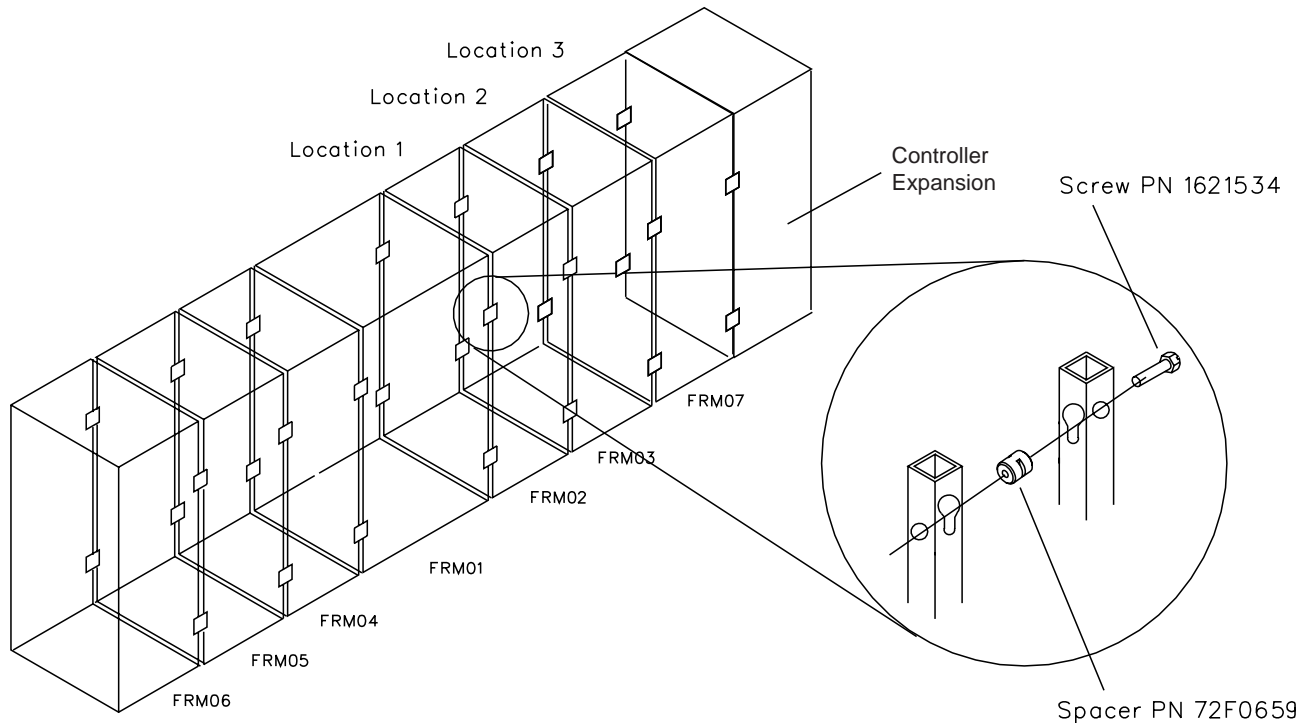

Figure 4-1. Frame Attachment
- Step c. \_\_\_\_ Put the 4 spacers (PN 72F0659) in the 3745 base frame as shown in Figure 4-1 on page 4-3.
- Step e. \_\_\_\_ Install pads (PN 03F7783) and studs (PN 76F9365) and using a 7/8" wrench, make a leveling pad adjustment on the 3746-900. Align the frame bolt holes, remove the black shield covers if needed, and bolt the 3746-900 to the 3745 using screws (PN 1621534) and spacers (PN 72F0659) (see Figure 4-1 on page 4-3).
- Step d. \_\_\_\_ Put the 4 spacers (PN 72F0659) in the 3746 A11 frame as shown in Figure 4-1 on page 4-3.
Step f. \_\_\_\_ Install pads (PN 03F7783) and studs (PN 76F9365) and using a 7/8" wrench, make a leveling pad adjustment on the 3746-900. Align the frame bolt holes, remove the black shield covers if needed, and bolt the 3746-900 to the 3746-A11 using screws (PN 1621534) and spacers (PN 72F0659) (see Figure 4-1 on page 4-3).
Step d. \_\_\_\_ Put the 4 spacers (PN 72F0659) in the 3746 A12 frame as shown in Figure 4-1 on page 4-3.
Step f. \_\_\_\_ Install pads (PN 03F7783) and studs (PN 76F9365) and using a 7/8" wrench, make a leveling pad adjustment on the 3746-900. Align the frame bolt holes, remove the black shield covers if needed, and bolt the 3746-900 to the 3746-A12 using screws (PN 1621534) and spacers (PN 72F0659) (see Figure 4-1 on page 4-3).